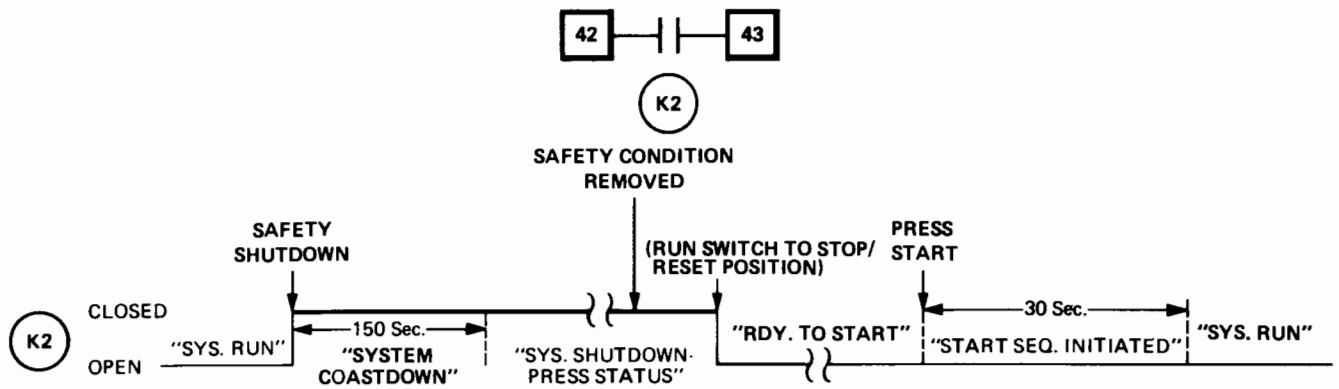

FIG. 20 — STATUS CONTACTS — SAFETY SHUTDOWN
- TB4-40/41 - Cycling shutdown contacts. Dry closure N.O. contacts (rated for 115VAC; 2 AMPS) available for remote status indications. Contacts will close whenever chiller is shutdown on a "Cycling" shutdown. A "Cycling" shutdown is that which does not require a local manual reset at the Control Center to restart the compressor; such as local/remote cycling device, low water temp, motor controller or multi-unit sequence kit. When shutdown control is satisfied, the system will restart automatically. The contacts open upon "Start Sequence Initiated" or when the "COMPRESSOR" switch is placed in "STOP/RESET" position. Refer to Fig. 20.
restart system; such as power failure (manual restart option), Motor phase current unbalance (Solid State Starter only), starter malfunction detection, LEP, HOT, HDT, LOP, HOP, or HP. The contacts will open when the "COMPRESSOR" switch is placed in "STOP/RESET" position and the condition that caused the safety no longer exists. The system must be manually restarted. Refer to Fig. 20.